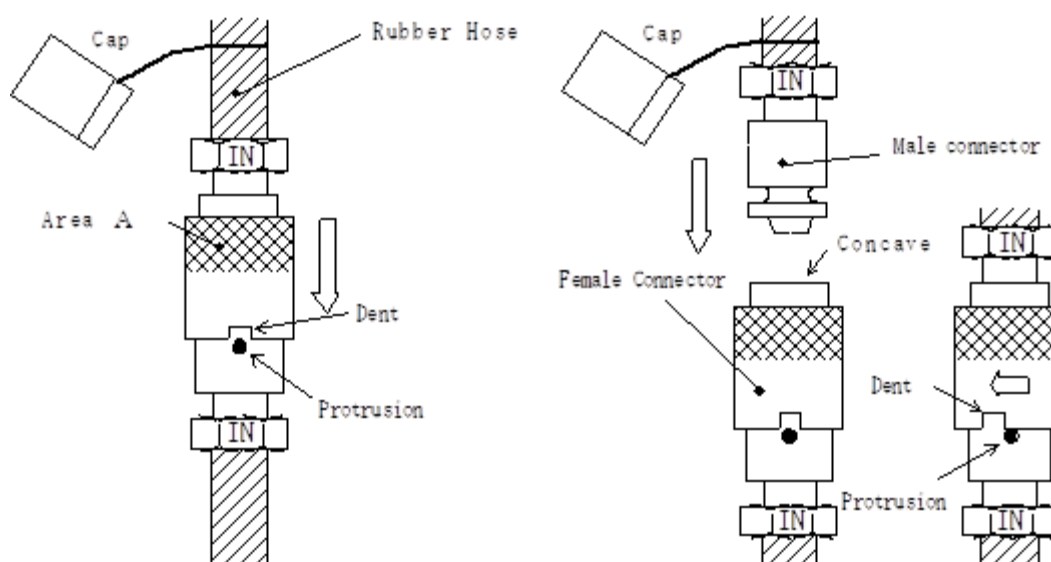

Fig.9 ATTACHMENT/DETACHMENT OF QUICK CONNECTOR
- (a) Adjust "dent" and "protrusion" in position. Then, pull area A of the female connector in direction indicated by arrow as shown in the Fig.9. Spring in the connector works for disconnection.